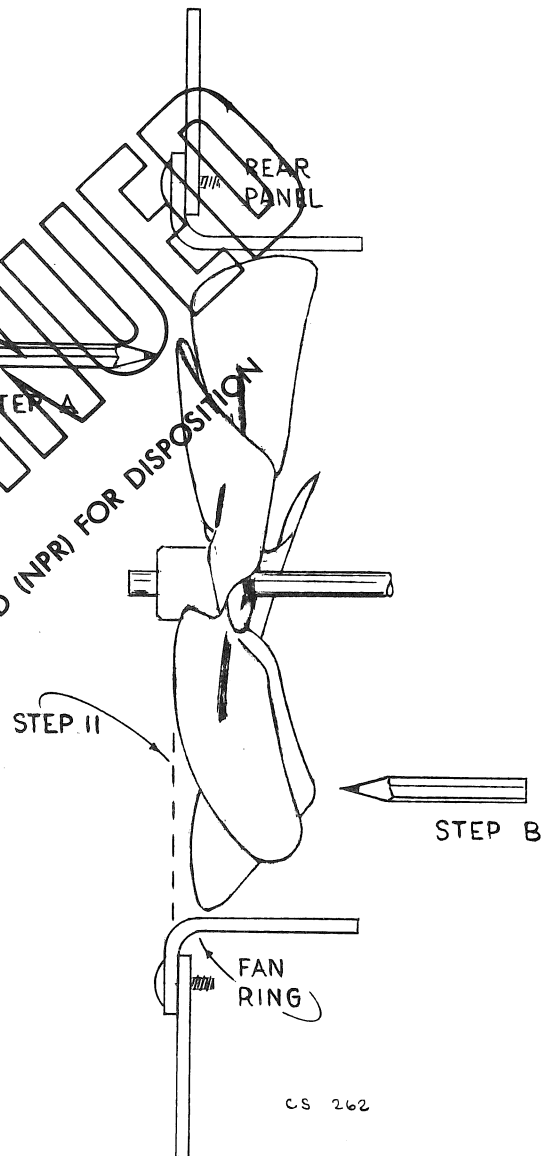

FIG. 3
- () 11. Mount the fan blade on the motor shaft so that the blade does not extend beyond the fan ring (see Fig. 3, Step 11). Tighten the set-screw down on the flat side of the shaft.
- () a. Hold a pencil stationary, so that the front edges of the blade fins barely clear the pencil point (see Fig. 3, Step A). Each fin should clear the pencil by exactly the same amount.
- () b. Similarly, check the clearance of the rear edges of the blade fins (see Fig. 3, Step B).